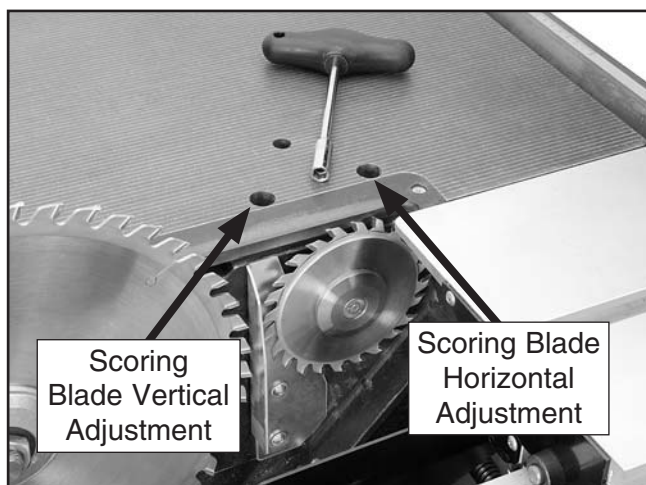

Figure 27. Scoring blade adjustment controls.
21. Move the scoring blade tilt to 0° (blade 90° to table), then raise it up, using the vertical adjustment shown in (**Figure 27**), until it is approximately 1/2" above the table surface.